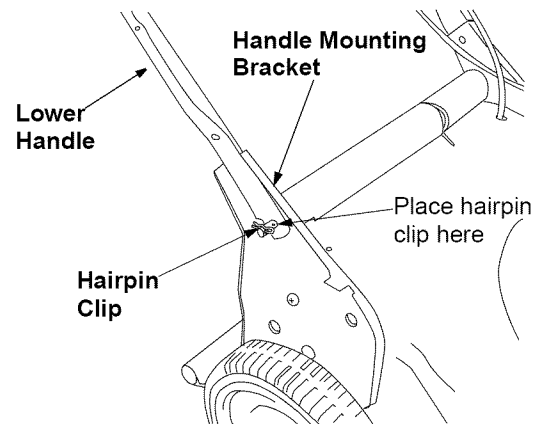

Figure 4
- Pinch the lower handle against the handle mounting bracket using pliers. See Figure 4.
- Move the hairpin clip from the outer to the inner hole of the weld pin on the handle mounting bracket. See Figure 4.